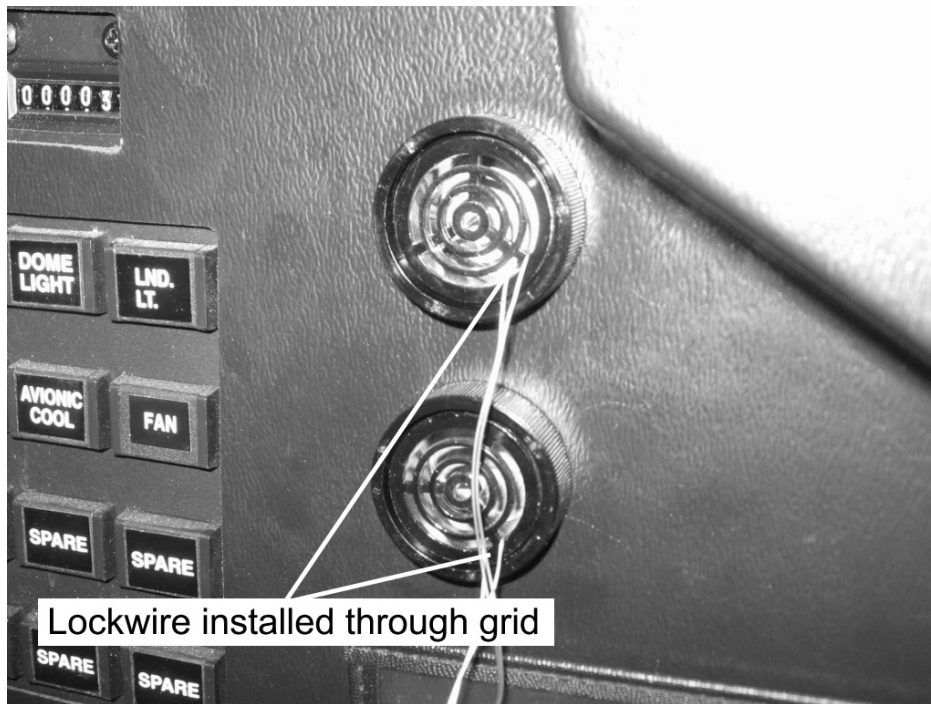

Figure 1. Warning Horn Lockwire Installation
1. Install a loop of .020" or .025" lockwire through the face grids of low rotor and engine out warning horns (See Figure 1). Remove the outer mounting ring from the warning horns.